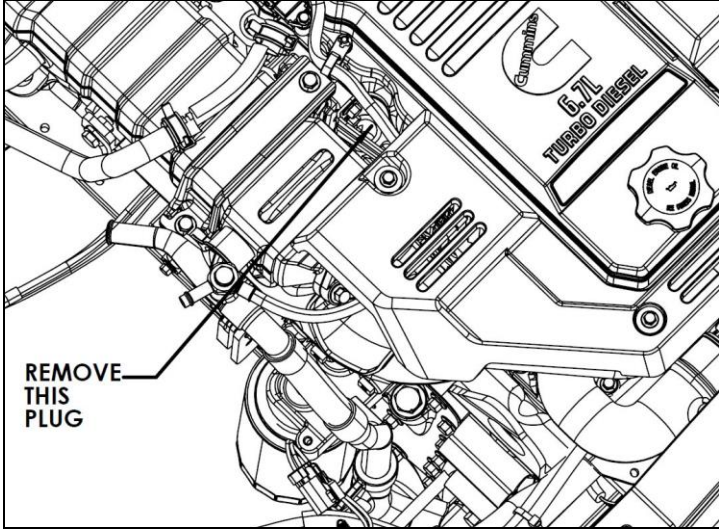

Figure 2.9
- ☐ Remove and discard the plug from the passenger side of the cylinder head (Figure 2.9). Use thread sealant on all connections, and install the supplied reducer bushing, pipe nipple, and tee fitting in the cylinder head port. Face the tee fitting towards the passenger side of the truck, and install the hose barb in the tee.